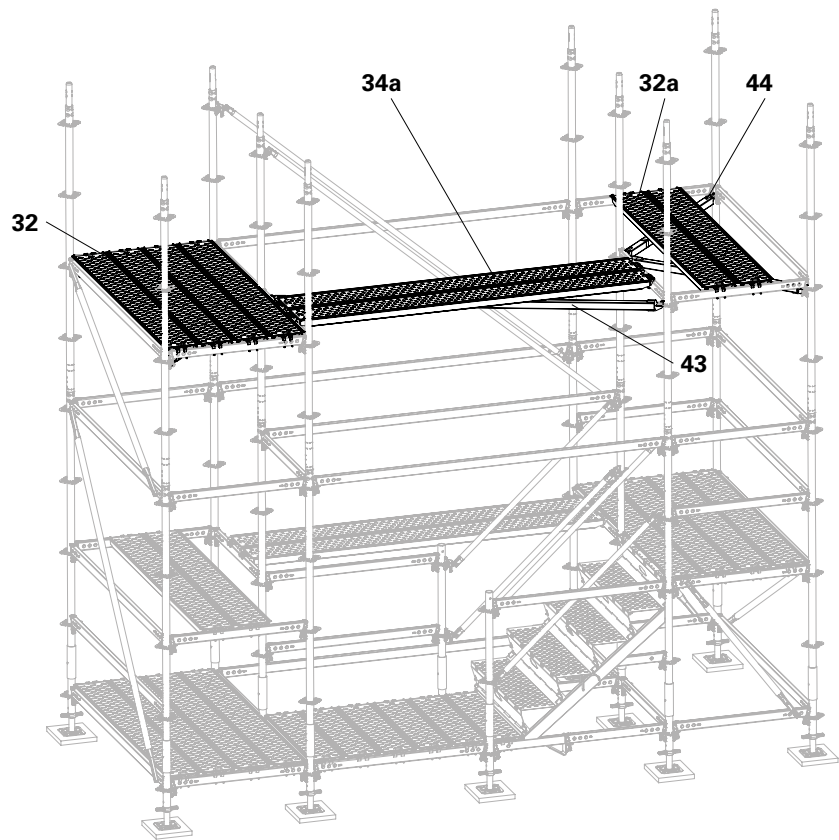

Fig. A8.11
3. Fit H-Braces UBH Flex (**43 + 44**) beneath the Steel Decks UDG-2 (**32 + 32a + 34a**). (Fig. A8.11)